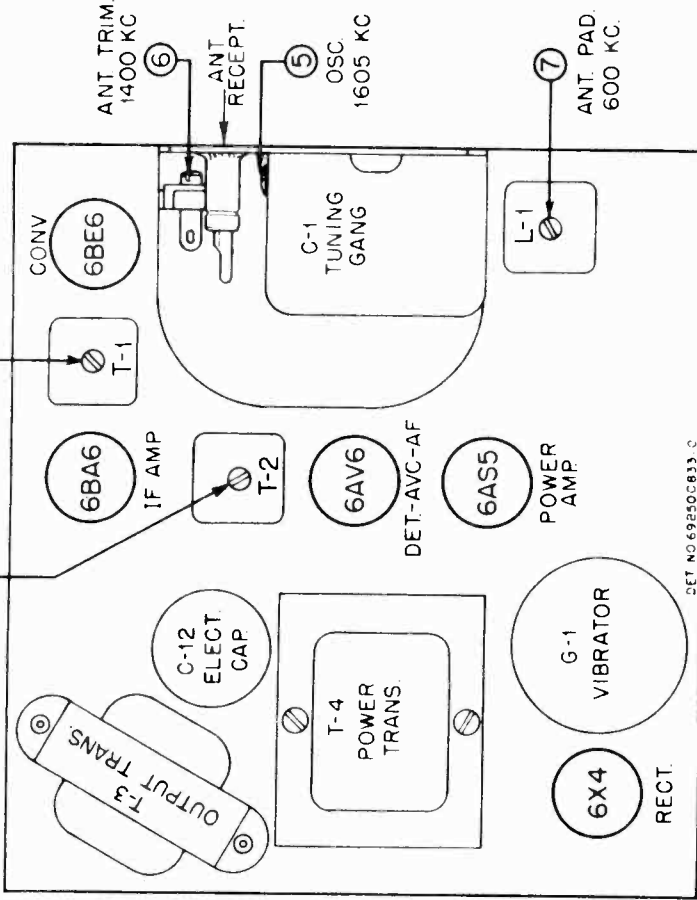

FIGURE 2. TUBE & TRIMMER LOCATIONS
4. A special dummy antenna for RF alignment. Construct dummy antenna as shown in Figure 2.